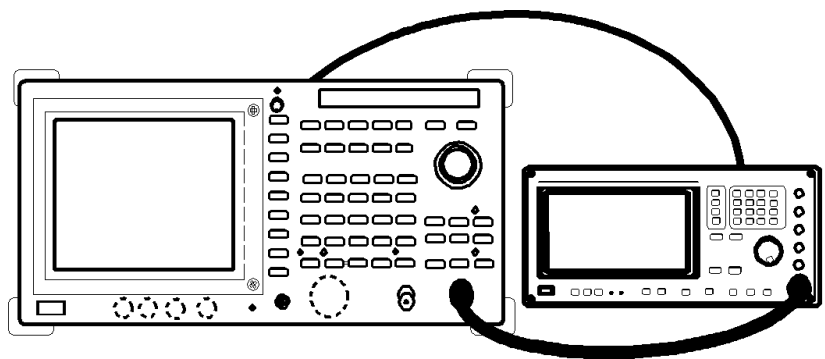

Figure 1-4 Setup for Measuring a Frequency Span Accuracy
1. Connect the signal generator as shown in Figure 1-4.